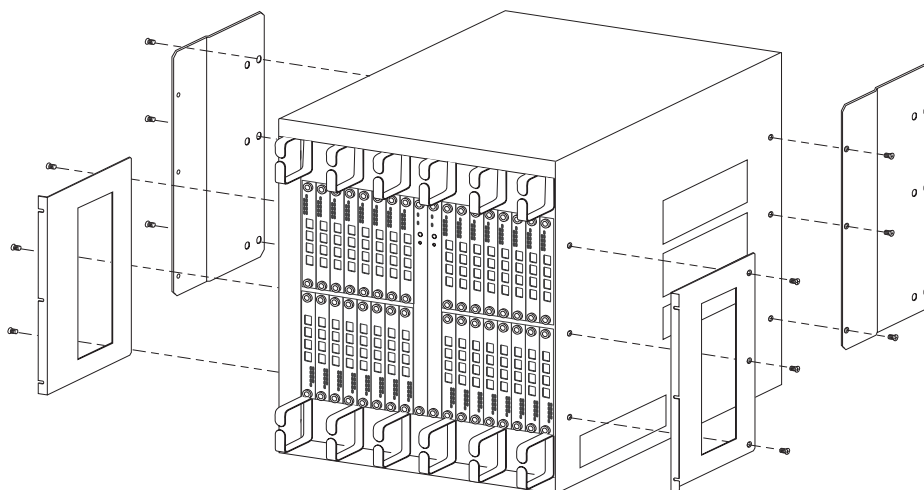

Figure 12: Securing the front mounting brackets to the Director 2/140
2. Secure the front mounting brackets on either side of the director, as shown in Figure 12. For each front mounting bracket, use three (3) screws.
4. Secure the two rear mounting plates to each side of the director, as shown in Figure 12. For each plate, use three (3) screws.